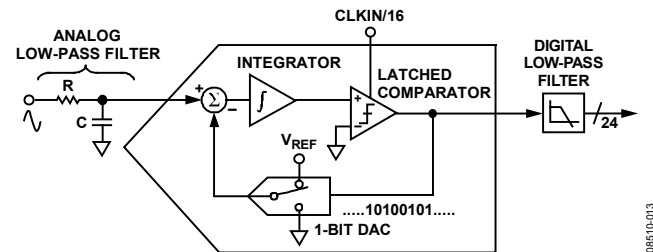
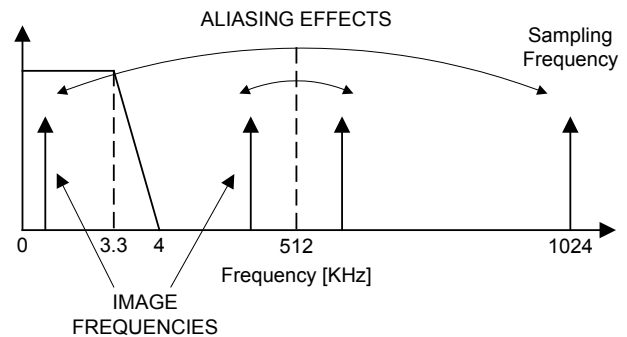

Figure 13. First-Order Σ - Δ ADC
Figure 15. Aliasing Effects
For simplicity, the block diagram in Figure 13 shows a first-order Σ - Δ ADC. The converter is composed of the Σ - Δ modulator and the digital low-pass filter.
Figure 13 also shows an analog low-pass filter (RC) on the input to the ADC. This filter is placed outside the ADE7880, and its role is to prevent aliasing. Aliasing is an artifact of all sampled systems as shown in Figure 15. Aliasing means that frequency components in the input signal to the ADC, which are higher than half the sampling rate of the ADC, appear in the sampled signal at a frequency below half the sampling rate. Frequency components above half the sampling frequency (also known as the Nyquist frequency, that is, 512kHz) are imaged or folded back down below 512kHz. This happens with all ADCs regardless of the architecture. In the example shown, only frequencies near the sampling frequency, that is, 1.024MHz, move into the band of interest for metering, that is, 40Hz to 3.3kHz. To attenuate the high frequency (near 1.024MHz) noise and prevent the distortion of the band of interest, a low-pass filter (LPF) must be